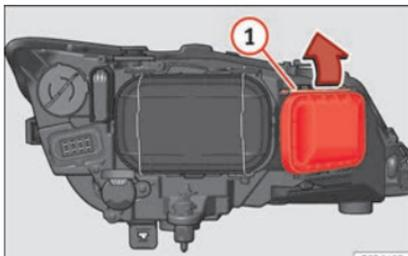

Fig. 107 Main beam headlight bulb.
- Move the loop » Fig. 107 ① in the direction of the arrow and remove the cover.